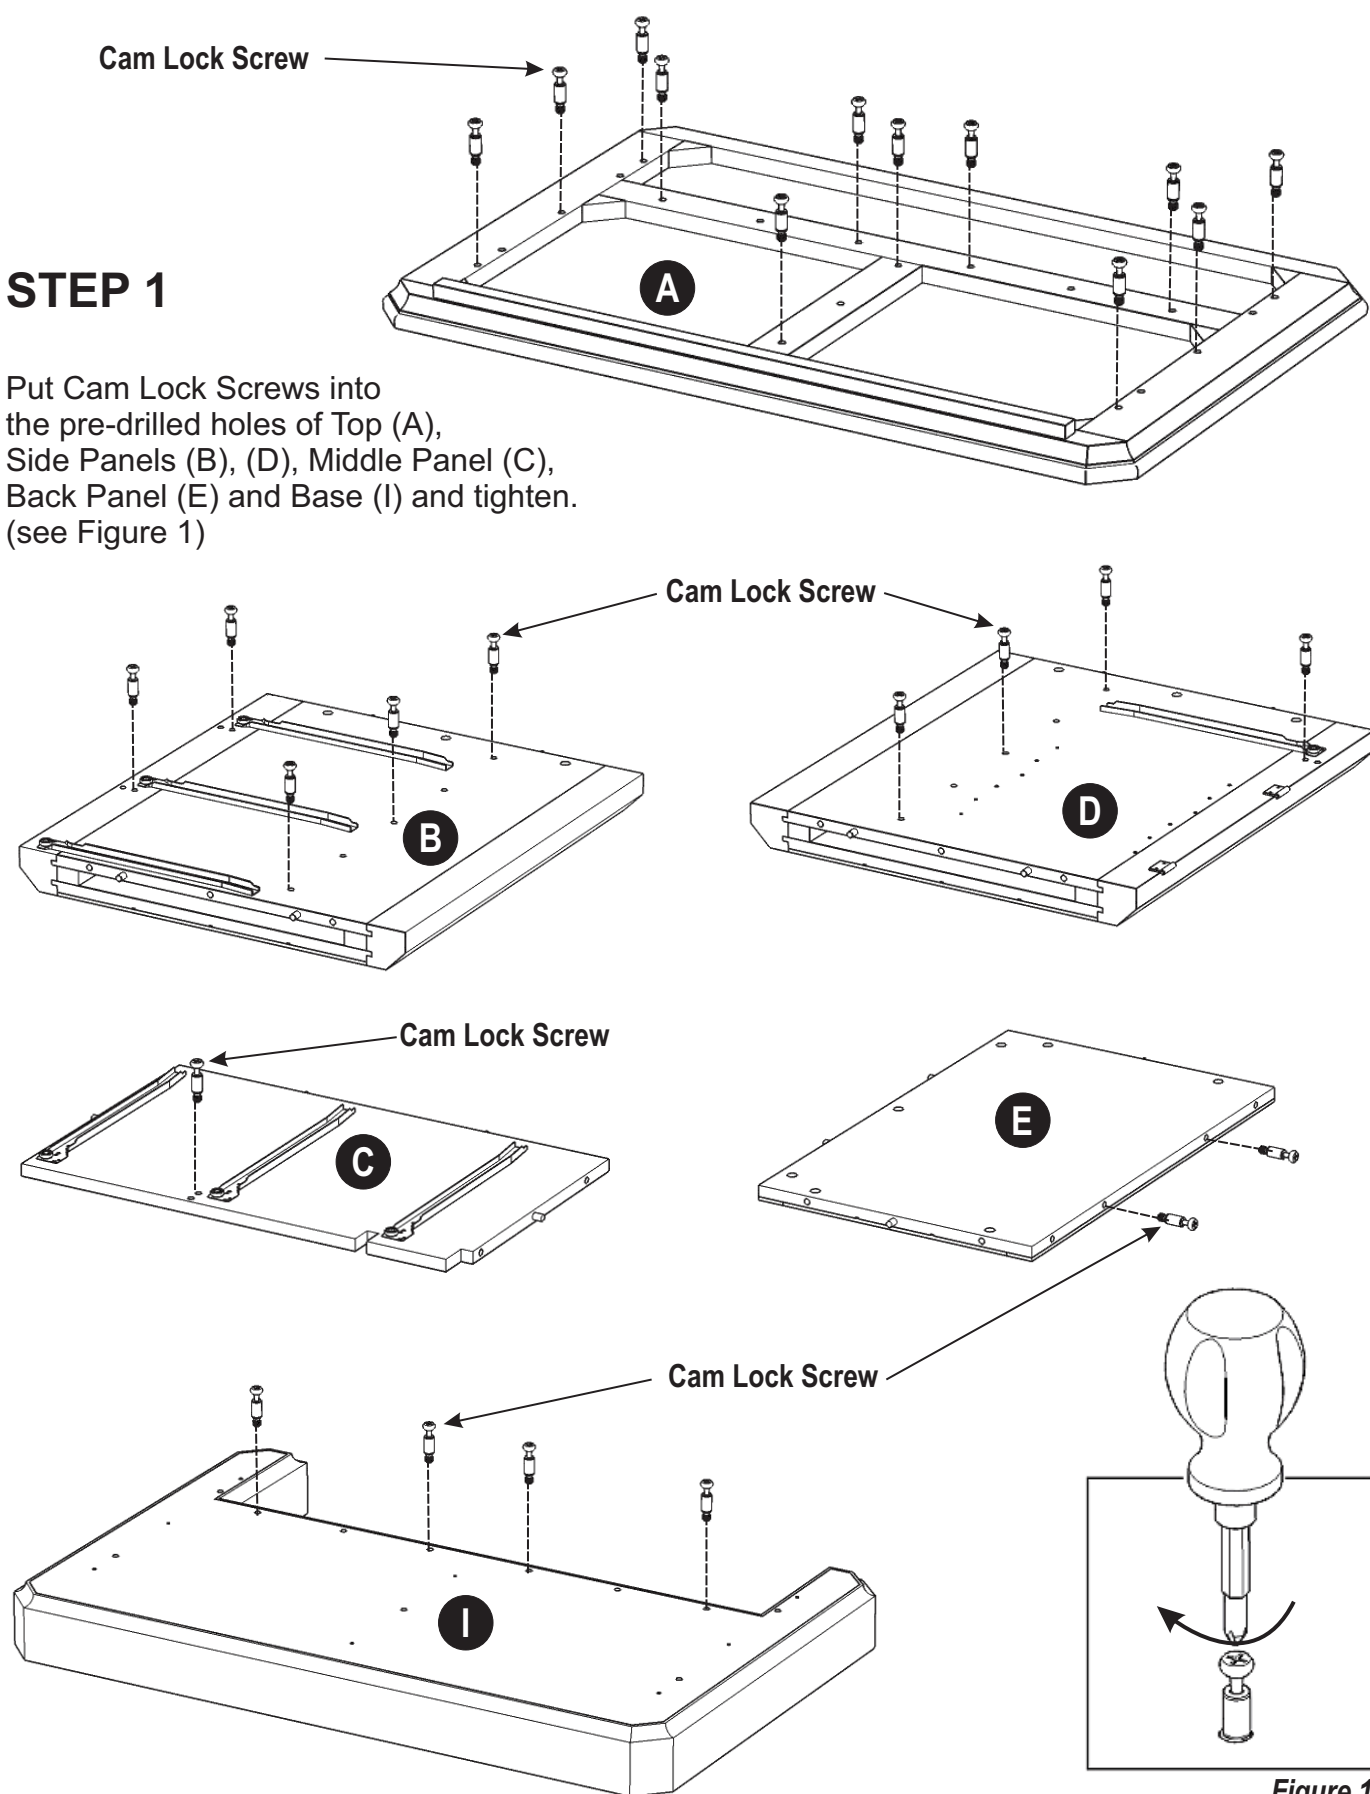

Figure 1
Put Cam Lock Screws into the pre-drilled holes of Top (A), Side Panels (B), (D), Middle Panel (C), Back Panel (E) and Base (I) and tighten. (see Figure 1)
(Figure 1)
Attach L2 to L3 and L4 using long wood screws (4X), tighten halfway. (See Figure 1)